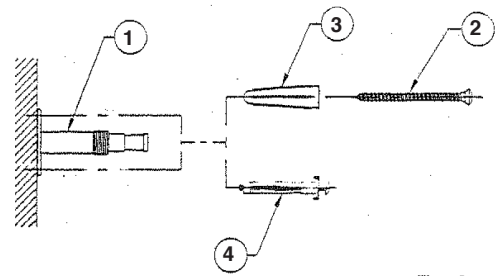

Fig. 2
2. Select the hardware **(2 & 3)** or **(4)** that best suits your application and secure mounting post **(1)** to wall **(Fig. 2)**.